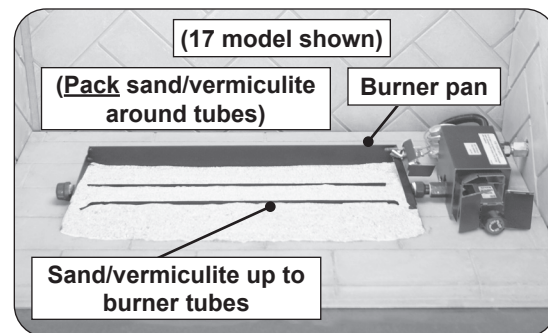

Fig. 19-1 Place sand/vermiculite
1. Partially fill the burner pan with the sand/vermiculite until it rests at a level toward the top of the burner tubes as shown in Fig. 19-1.